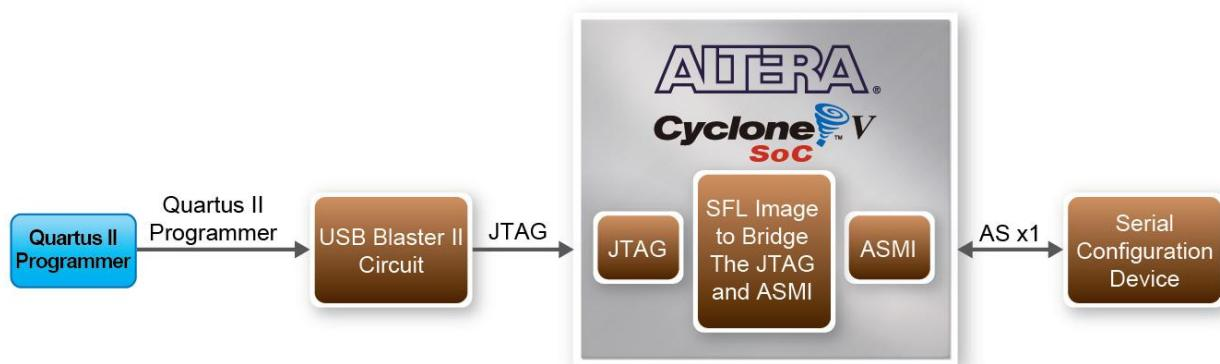

Figure 3-9 Programming a serial configuration device with SFL solution
Users need to use Serial Flash Loader (SFL) to program the serial configuration device via JTAG interface. The FPGA-based SFL is a soft intellectual property (IP) core within the FPGA that bridge the JTAG and Flash interfaces. The SFL Megafunction is available in Quartus II. Figure 3-9 shows the programming method when adopting SFL solution.